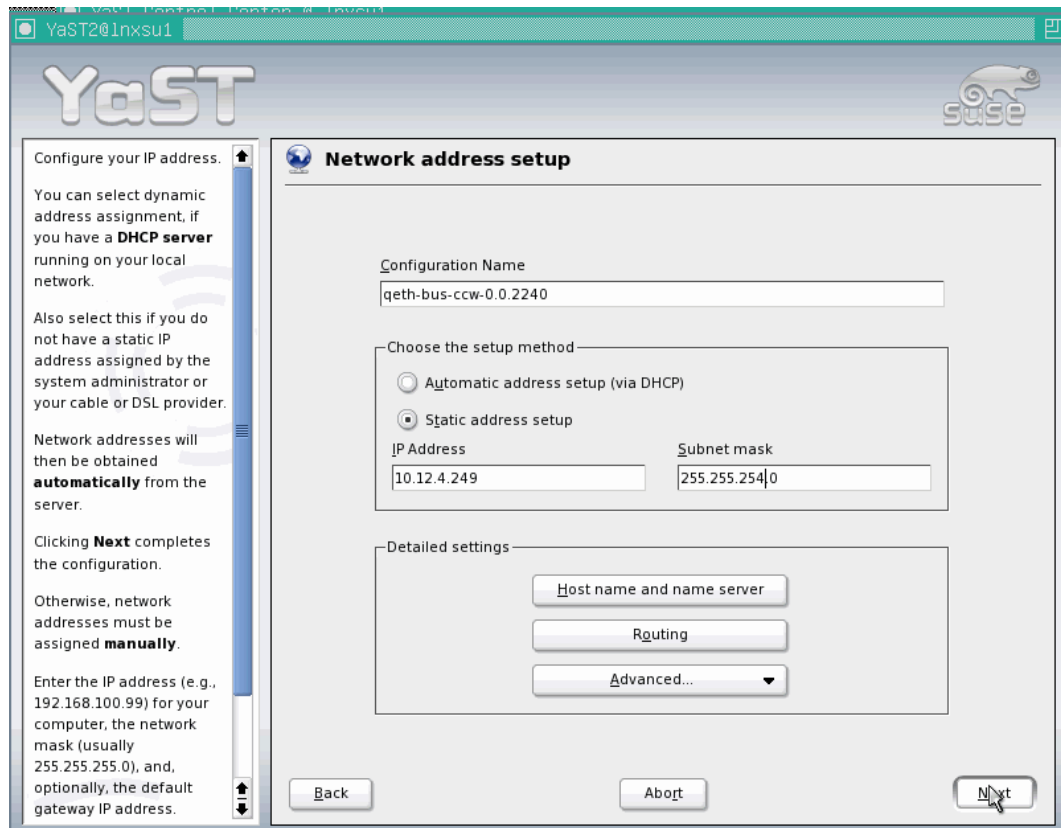

Figure 6-7 IP configuration panel for the QDIO Layer 2 device
4. In the subsequent panel we added the IP configuration details, as shown in Figure 6-7 on page 128.